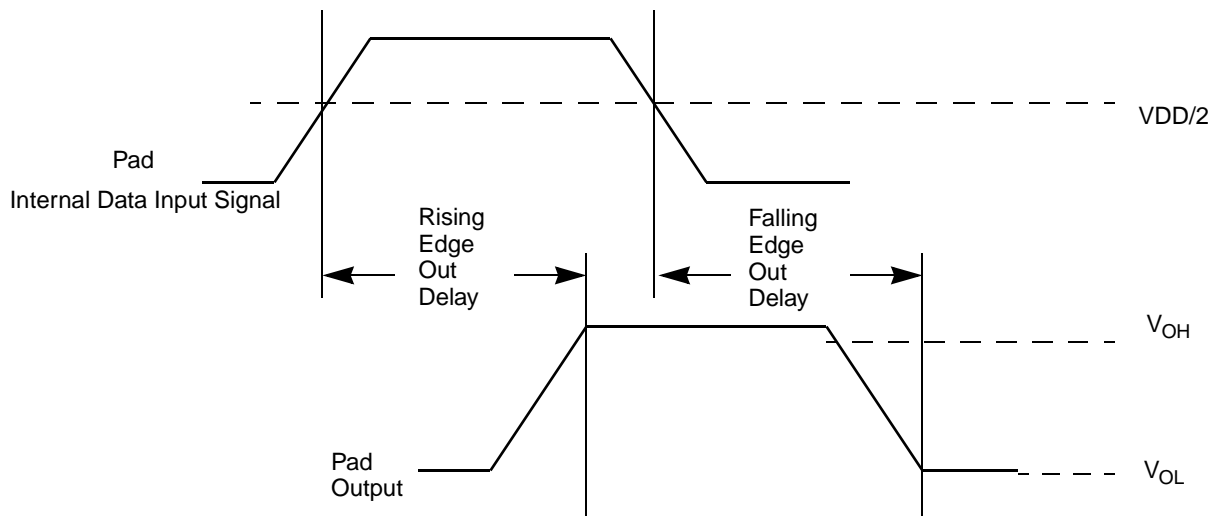

Figure 6. Pad output delay
- 8 Output delay is shown in Figure 6. Add a maximum of one system clock to the output delay for delay with respect to system clock.